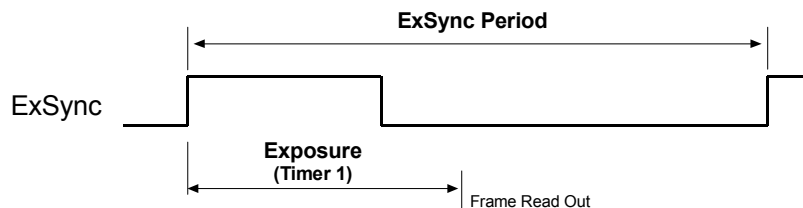

Figure 3-4: ExSync, Programmable Mode
- In **ExSync, programmable** mode, the rising edge of ExSync triggers exposure and charge accumulation for a pre-programmed period of time. The frame is read out and transferred at the end of the pre-programmed period. The falling edge of ExSync is irrelevant (see Figure 3-4).